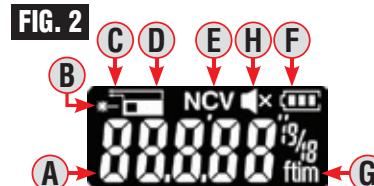

**FIG. 1****FIG. 2****ENGLISH****TESTER (FIG. 1)**
**ESPAÑOL****PROBADOR (FIG. 1)**
**FRANÇAIS****TESTEUR (FIG. 1)**